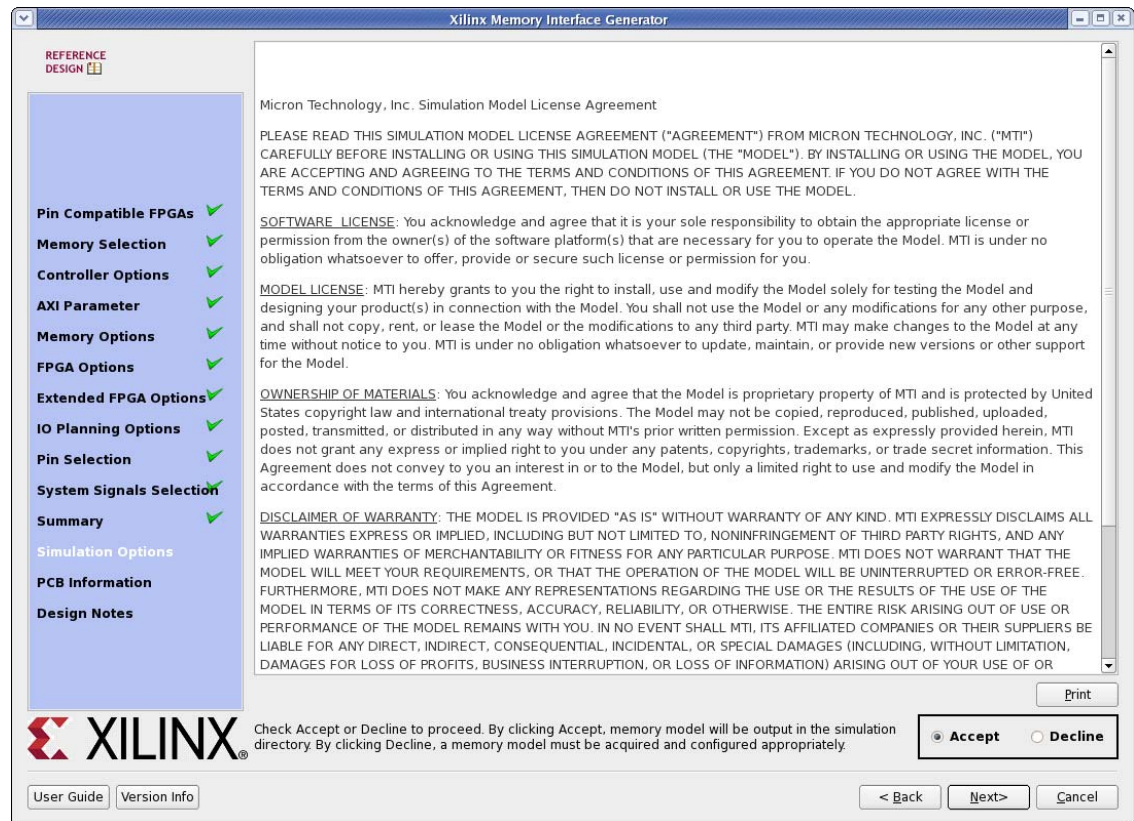

Figure 38: MIG Micron Model License Agreement
18. Review the License Agreement, click **Accept**, and then **Next** to have the Vivado tools deliver a memory simulation model for use in creating a simulation testbench (Figure 38). If the License agreement is declined, a separate model must be obtained to perform simulations with this IP core.